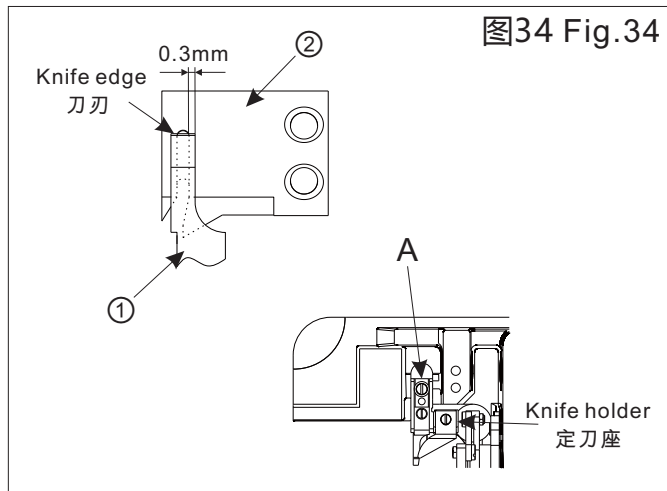

图34 Fig.34
## 2.定刀片与动刀片的关系 (图34)
## 2.The relation between fixed knife and movable knife(Fig.34)
1)The clearance between fixed knife ① and movable knife ② should be 0.3mm
2)Adjust the position illustrated by the Fig.34.